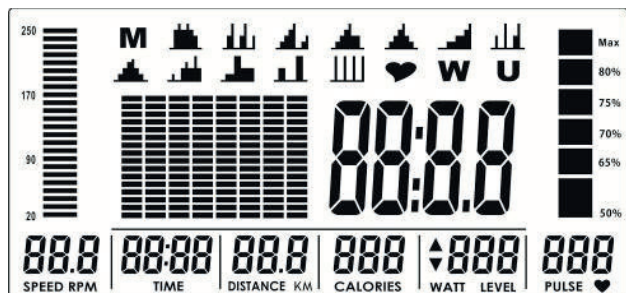

Fig. 1
1. Plug the adapter in the socket and the computer turns on. It displays all segments on the LCD screen for two seconds (fig. 1).